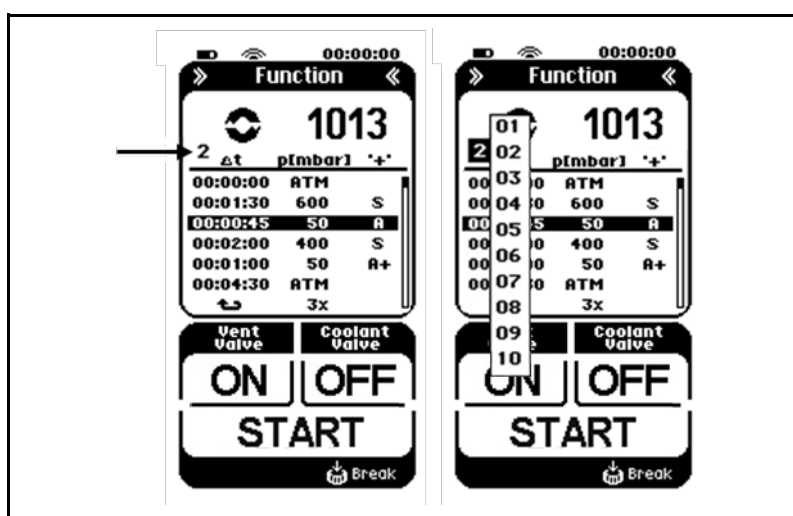

Fig. 15: Menu in Function operating mode
Line selection (see Fig. 15):
- Press the button to select data point tables (arrow in Fig. 15) and select the required data point table.
i Up to 10 different data point tables can be stored and called as required. The number in the display (arrow in Fig. 15) indicates the data point table that is currently selected.